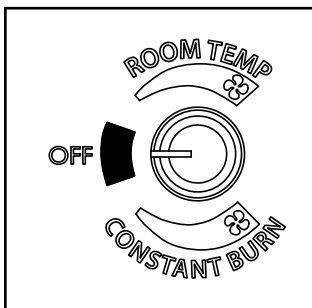

Figure 2.1
1. A room sensor is required for proper operation of this appliance in "Room Temp" mode. At this time, fill the hopper with pellets, insure the control is set to "OFF". Figure 2.1. Plug the power cord into a properly grounded, nearby outlet.